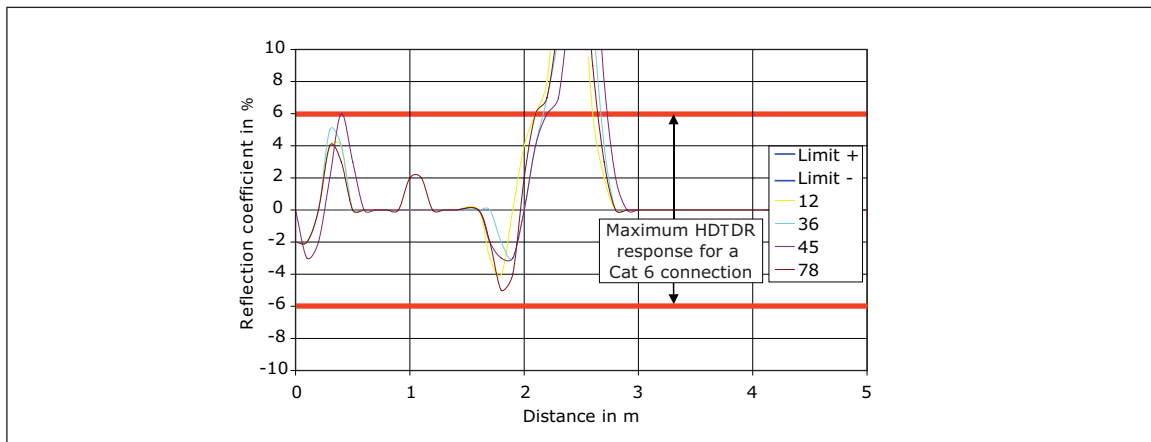

Figure 12. Example of HDTDR Results for a Passing Main DSP-PCI Adapter
5. Verify that the HDTDR responses for the main adapter connector are 6 % or less. Figure 12 shows an example of a passing main adapter.